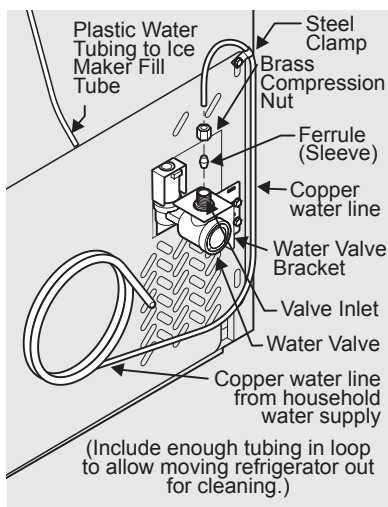

Figure 1
4. If you use copper tubing - Slide brass compression nut, then ferrule (sleeve) onto water supply line. Push water supply line into water valve inlet as far as it will go (¼ inch / 6.4 mm). Slide ferrule (sleeve) into valve inlet and finger tighten compression nut onto valve. Tighten another half turn with a wrench; DO NOT over tighten. See Figure 1.